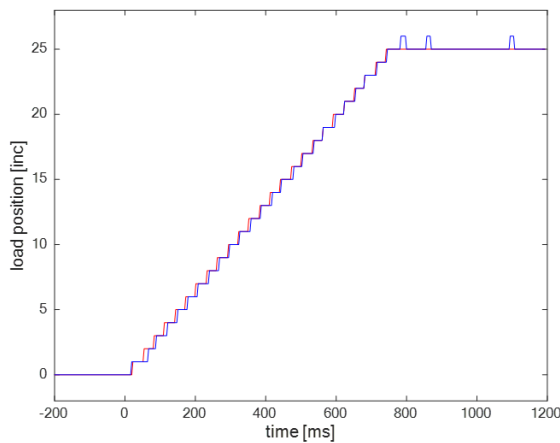
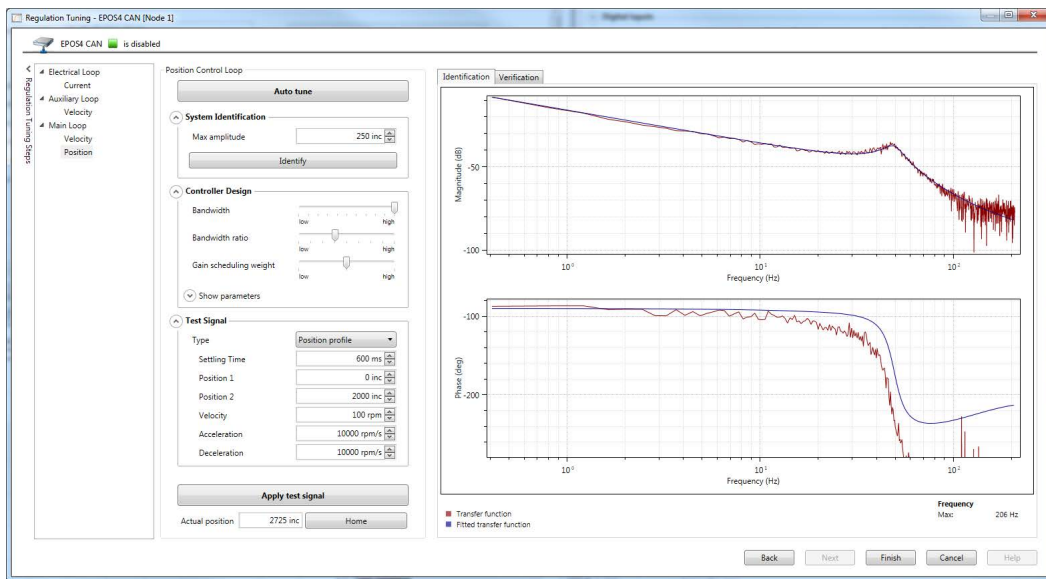
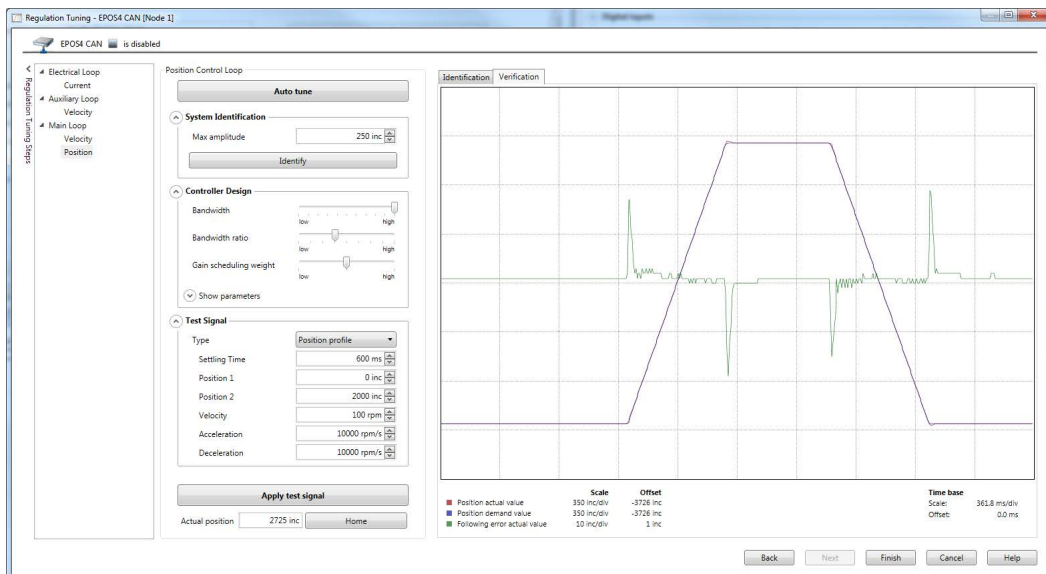

Figure 10-146 Dual loop control | Use case 1: Load position control with PID position controller
Figure 10-148 Dual loop control | Use case 1: Main loop tuning dialog box with the «Identification» tab active
Figure 10-149 Dual loop control | Use case 1: Main loop tuning dialog box with the «Verification» tab active
Using the path planner and executing the trajectory with the maximal velocity of 1 rpm, an acceleration of $1000 \frac{rpm}{s}$, and a position change of 25 increments, the result obtained is as in →Figure 10-146.
- The «Verification» tab in the dialog box contains the test signal of the resulting controller. The «Bandwidth» of the controller can be adjusted using a slider. Higher bandwidth means faster and more aggressive control behavior. However, it should be noted that for each system there are limitations on the achievable closed loop bandwidth and that the auto tuning algorithm will consider these limitations when calculating the main loop parameters. The other two sliders may be used to set the «Bandwidth ratio» and the «Gain scheduling weight». These parameters influence the elimination of the backlash effects and should be adjusted such that no backlash effects (as shown in →Figure 10-146) are visible in the verification signal. Increasing the «Gain scheduling weight» (moving the slider to the right) and decreasing the «Bandwidth ratio» (moving the slider to the left) has a positive effect on eliminating the negative effects caused by the backlash. The main loop tuning dialog box is shown in →Figure 10-148 and →Figure 10-149.